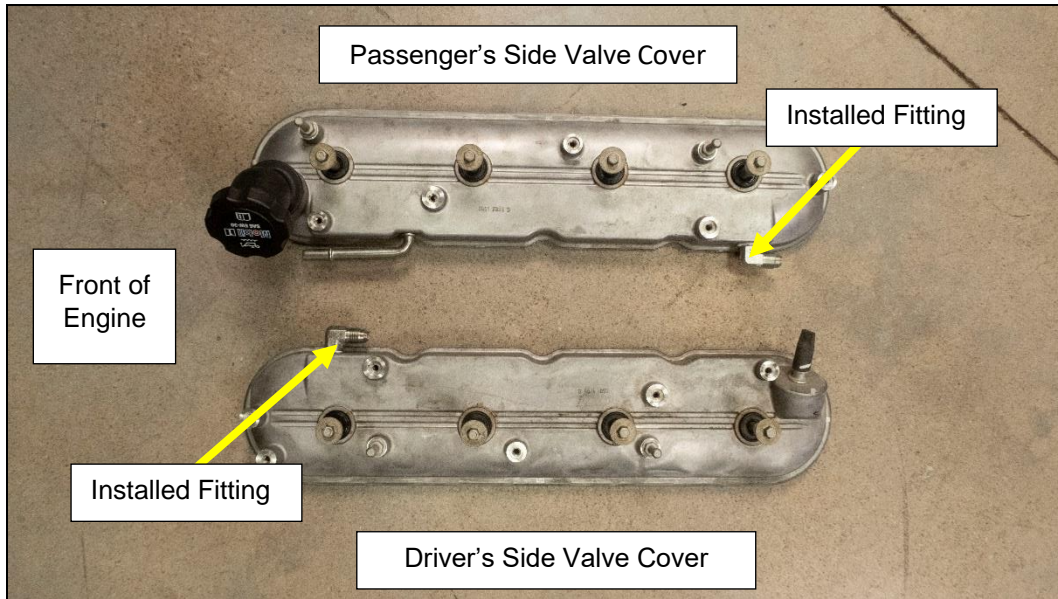

Figure 6
The valve covers will be modified to accept the oil drain back fittings and internal baffle modifications as shown in **Figures 6 & 7**. Note the location and orientation of the installed drain back fitting when installed. The baffle modifications will be at the same location inside the valve cover for each fitting installed.
6. Apply the sealing tape provided on to the threads of the -6 x 1/4" NPT 90 degree fitting. Install the fitting into each valve cover and tighten approximately 1/2 turn past hand tight (**Figure 11**). Align the fitting to face the rear of the engine as seen in **Figure 6** above.